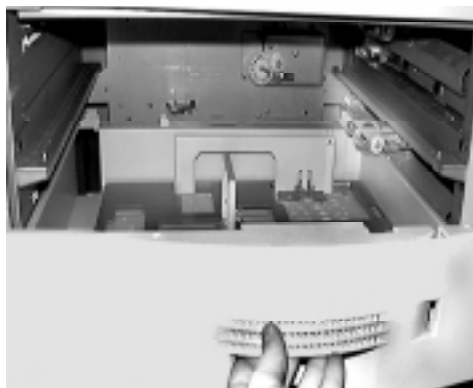

Figure 4-54 Installing Paper Trays
2. Replace the three paper trays back into the printer, as shown in Figure 4-54.